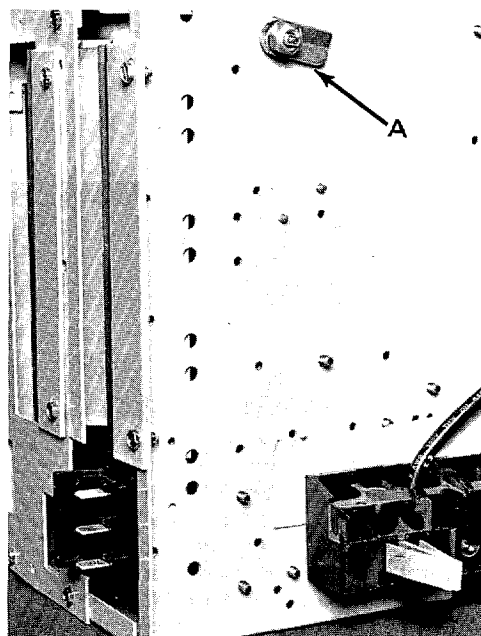

Fig. 36. Rear view showing upper unit latch (A) in horizontal position
4. Before installing the unit, open the unit door and wiring gutter door, and turn the upper unit latches (Fig. 36) to a horizontal position. (Larger units are furnished with one or two latches at the top of the unit.)
When the disconnect screw engages with the guide, the stabs are in contact with the vertical bus bars. This unit disconnect screw must then be turned by a screwdriver to complete the unit stab engagement with the control center bus. Should any binding be noted during this operation, a careful check should be made for interference with draw-out terminal blocks, etc. When the unit is fully racked into the section, the upper unit latches (Fig. 36) should be turned one-quarter turn to lock the unit in place. Visually check for full engagement of all terminal blocks on unit with adjacent fixed blocks in section.